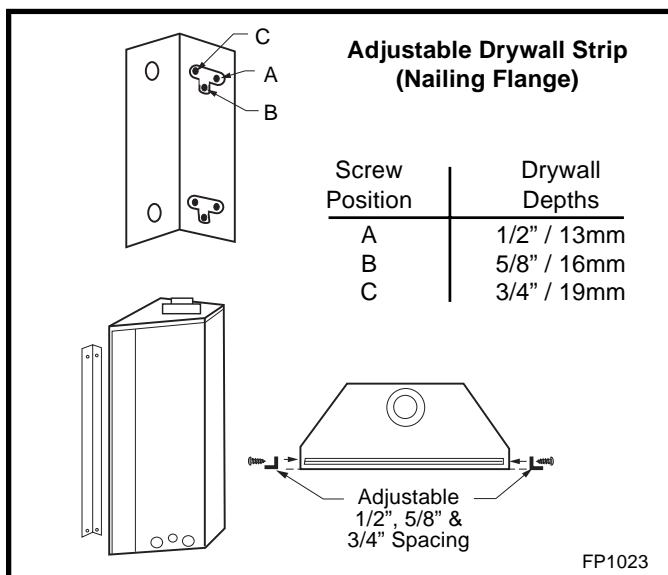

Fig. 5 Adjustable drywall strip (nailing flanges).
2. Nailing flanges are supplied with the fireplace (found on the fireplace hearth). To level the box and secure it firmly in place, remove the nailing flanges from the hearth and install at the sides of the fireplace as shown in Figure 5.